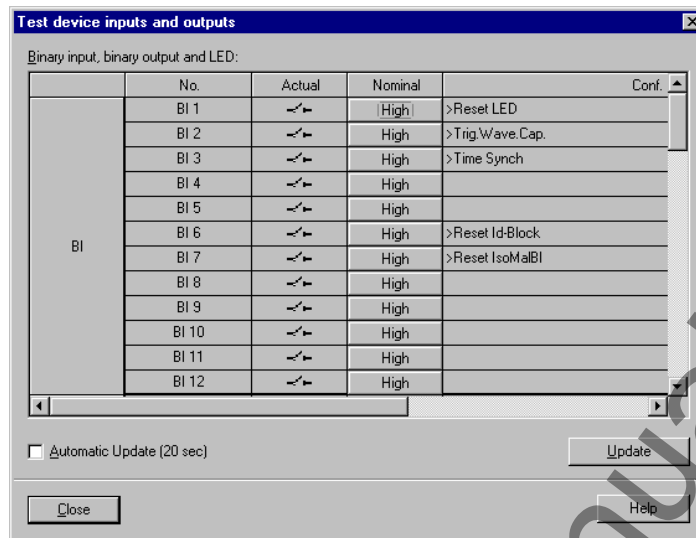

Figure 7-9 Dialog box devices in/outputs – Example
- ☐ Double-click in the list **Test device inputs and outputs**. The dialog box with this name is opened (see Figure 7-9, page 263).